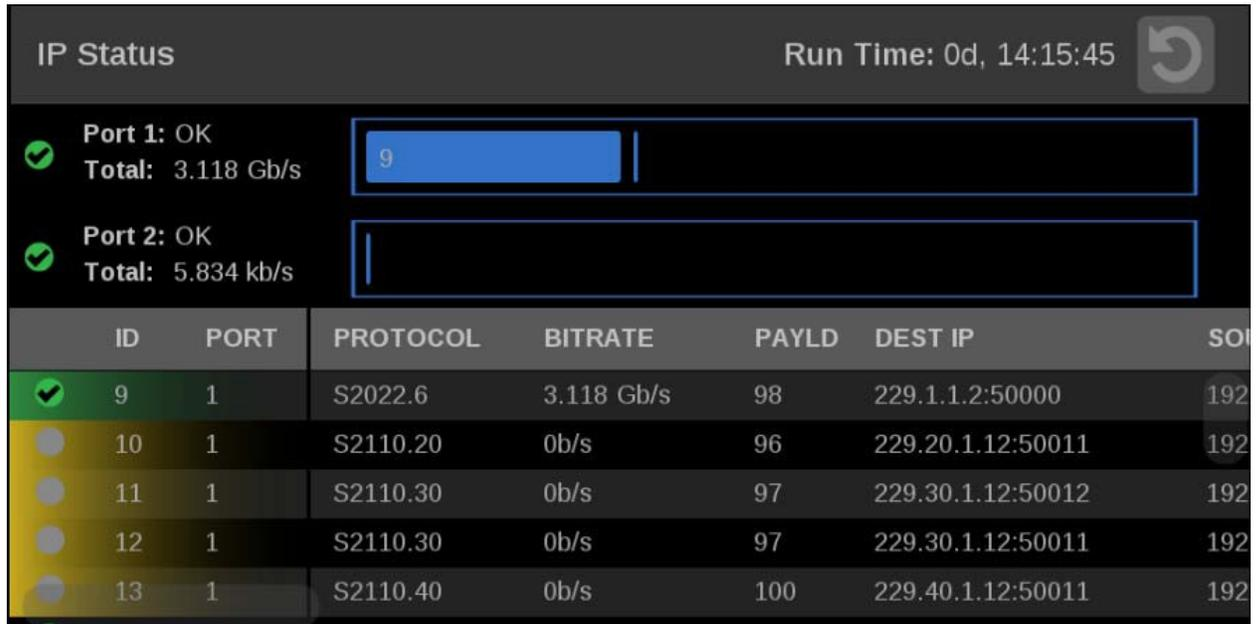

Figure 130: IP Status application display
The IP Status application provides an overview of the monitored IP stream and shows the status of each program in the stream. (See Figure 130.) After the input signals have been subscribed to using the input settings menu, the traffic on the SFP ports can be viewed using the IP Status application. Depending on the network switch deployed, the traffic may not appear in the IP Status application immediately.
- **Yellow gradient:** When an item in the list has a yellow gradient, it indicates the item was previously detected in the stream but is no longer present. The yellow gradient can also indicate messages, which occur only for a few seconds. Use the  icon to reset the display to view only the items currently in the stream. (See Figure 130.)
- **Green gradient:** When an item in the list has a green gradient it indicates the item is a currently monitored stream. Use the  icon to reset the display to view only the items currently in the stream. (See Figure 130/133.)